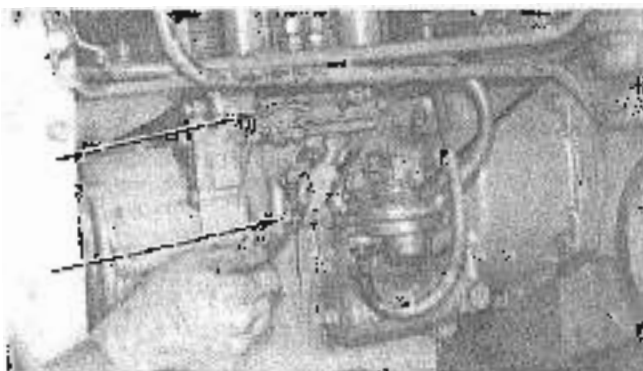

FIG. 2
- (2) The accelerator and fuel shut-off cables (Fig. 2) and the decompression cable if applicable.